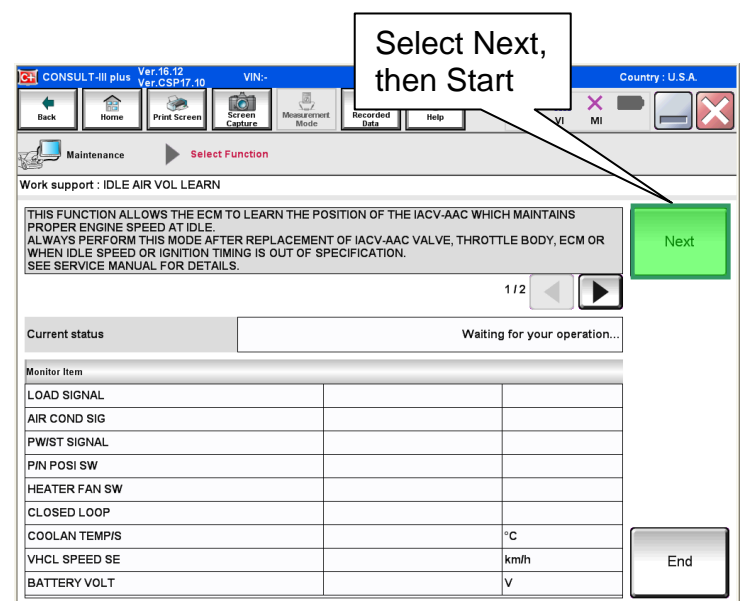

Figure 3
- d. Press “Next” then “Start” on the IDLE AIR VOL LEARN screen. See Figure 3.